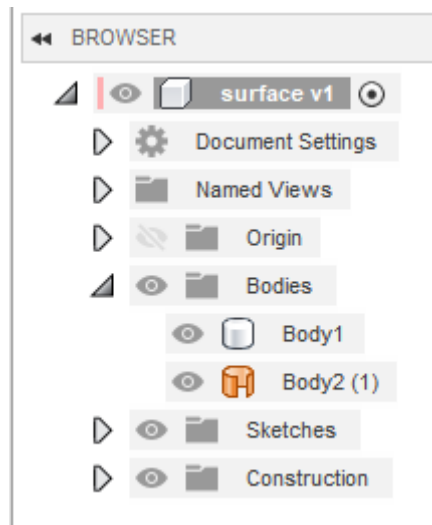

Figure 6.12
Once the surface is created, it appears in the design browser as a surface body (Figure 6.12). It has a shape but no thickness – in this case Body2 (1).